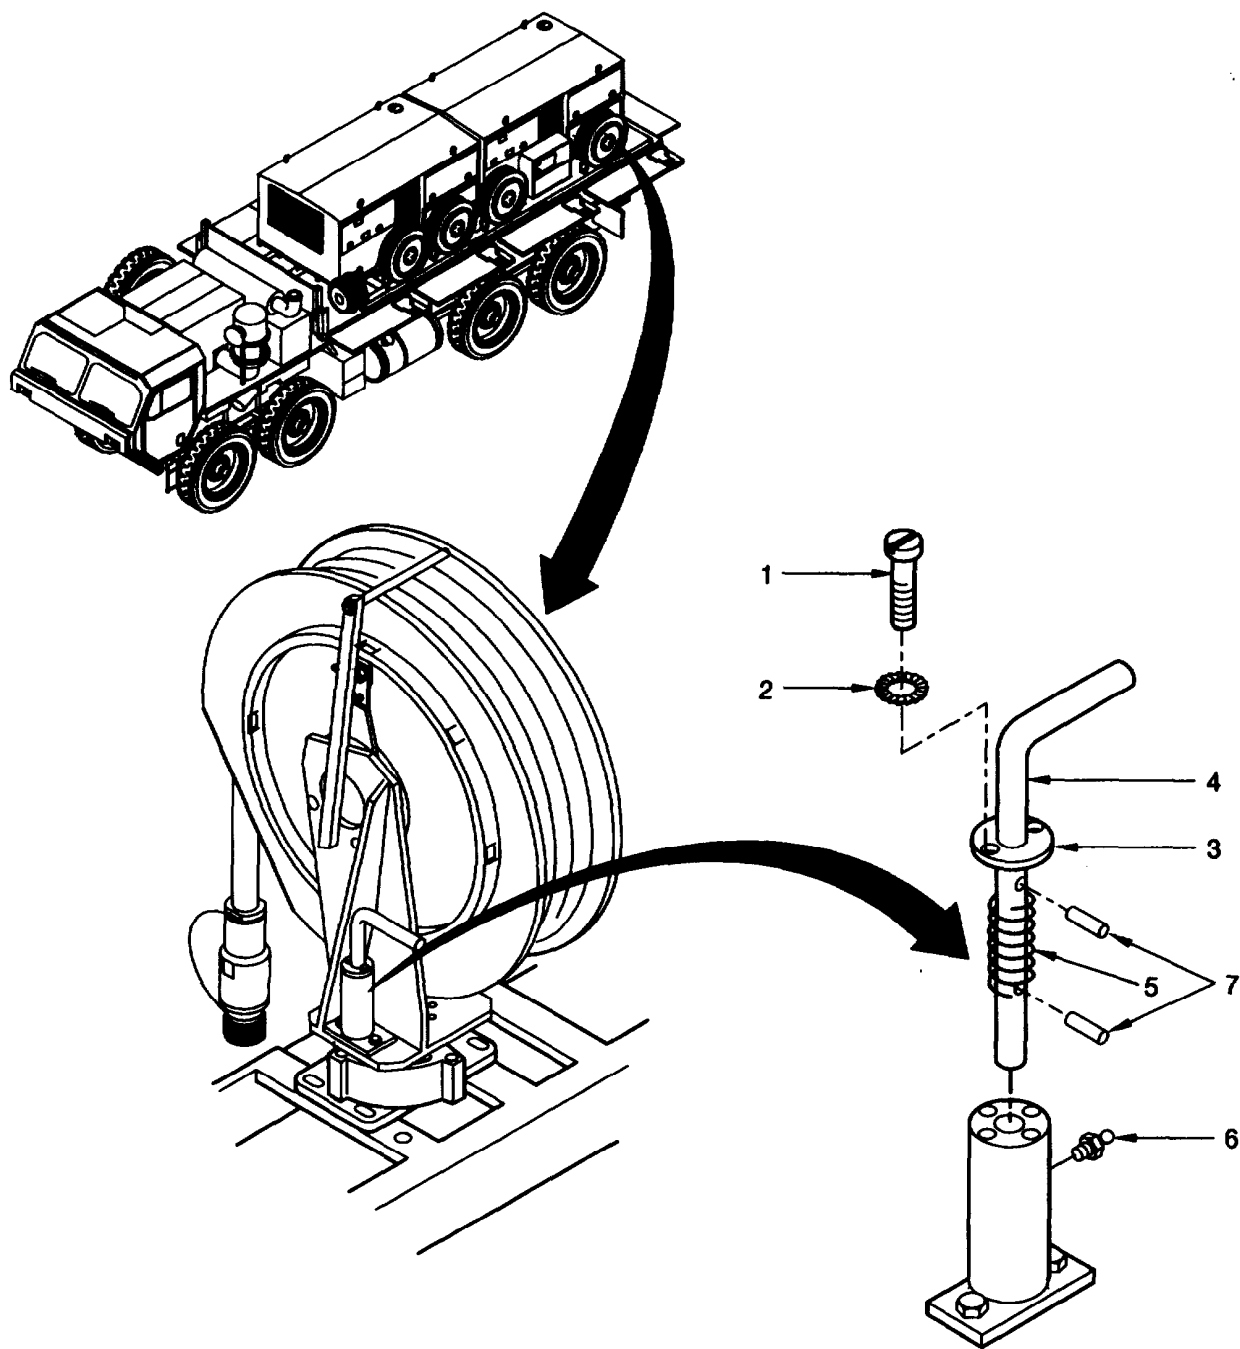

Figure 4-13 Locking Device Assembly.
- a. Remove two screws (1, figure 4-13) and serrated lock washers (2).
- b. Remove plate (3) and bracket (4), spring (5) and pins (7).